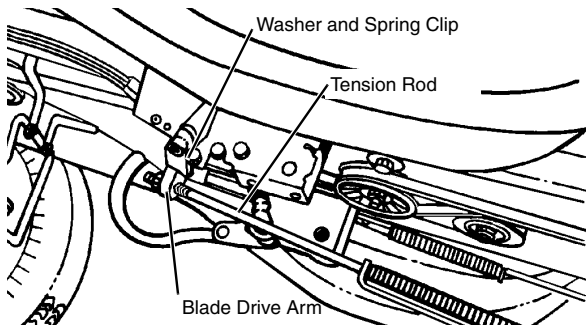
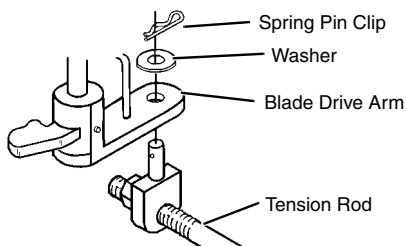

FIG. 35
FIG. 36
- Remove spring pin clip and washer holding tension rod to blade drive arm. (See FIG. 35 and FIG. 36)
- Attach tension rod to blade drive arm on bottom of mower with washer and spring pin clip. (See FIG. 36)